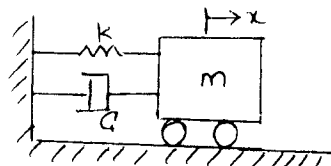

Fig Q3(b)
b. A machine of mass 20kg is mounted with spring and dashpot as shown in Fig Q3(b). The total spring stiffness is 10N/mm and the total damping is 0.15N-s/mm. If the system is initially at rest and a velocity of 100mm/sec is imported to the mass, then determine :